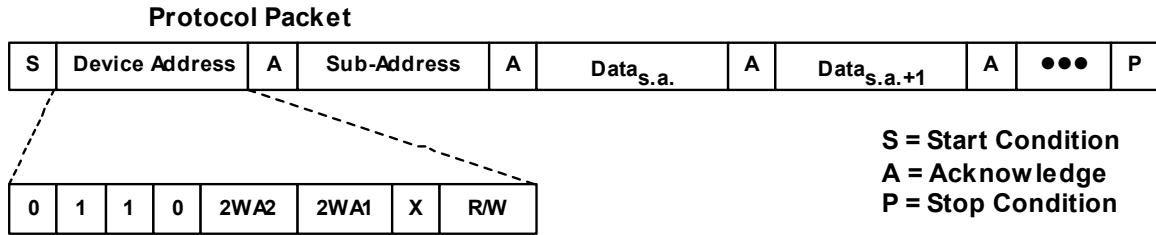

Figure 4-18 2-Wire Serial Bus Device Address
The 2-wire Serial Bus protocol is shown in Figure 4-18. All communications are initiated with a start condition (S) from the 2-wire bus master, which is followed by the desired device address and read/write bit.